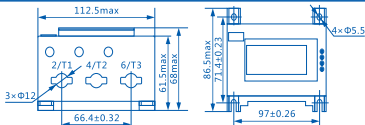

Figure 2 Outline and Installation Size of NJBK2-200 Protector
3.1 Outline and installation size of NJBK2-200: see Figure 2, unit: mm.